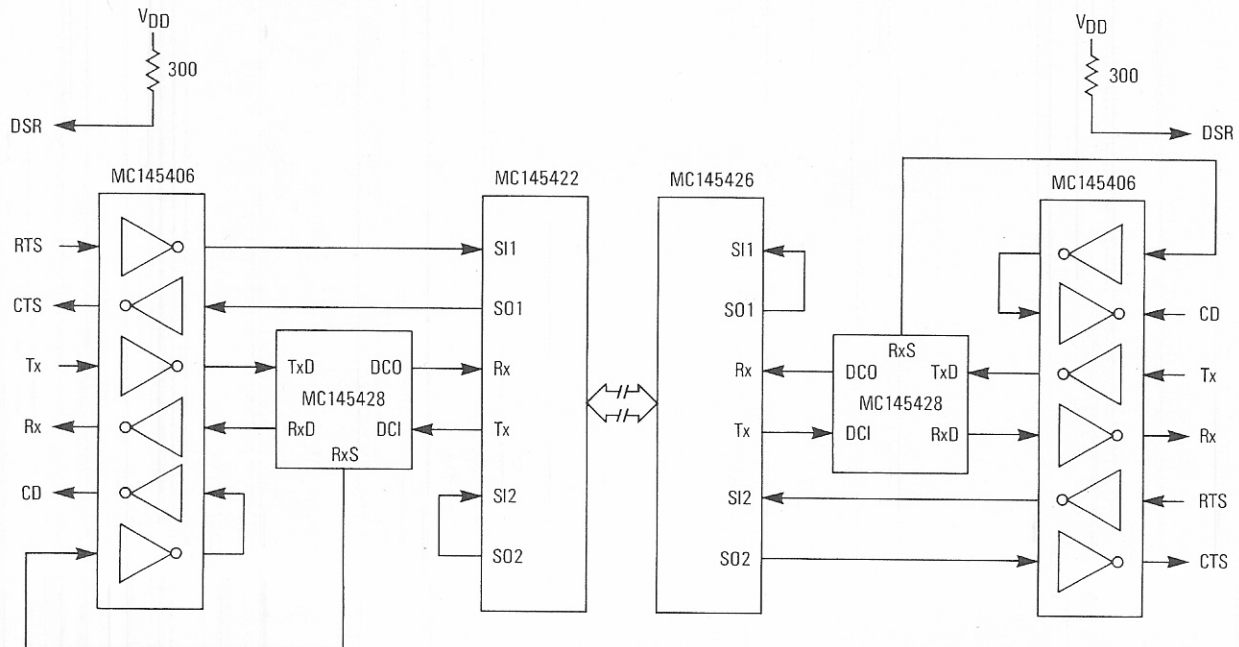

Figure 1. Limited Distance Modem Block Diagram
The introduction of the Universal Digital Loop Transceiver (UDLT) family of integrated circuits aids the design of a high speed Limited Distance Modem (LDM). With an external clock, the LDM will transmit asynchronous data at rates up to 80 kbps. As shown here with an internal clock, the LDM can send as much as 38.4 kbps of asynchronous full duplex data up to two kilometers on 26 AWG twisted pair wire. The data transfer is controlled by the following RS-232C handshake signals: Request to Send (RTS), Clear to Send (CTS), Data Set Ready (DSR) and Carrier Detect (CD). If the data link is operating, CTS goes active in response to RTS going active. DSR is active if the LDM is powered up. If synchronization is lost, the CD signal goes inactive. Figure 1 shows a block diagram of the LDM. Figure 10 is a photostat of the LDM Demonstration Board - front, and Figure 11 is a photostat of the LDM Demonstration Board - back. Table 1 is a parts list for the slave and master LDM.